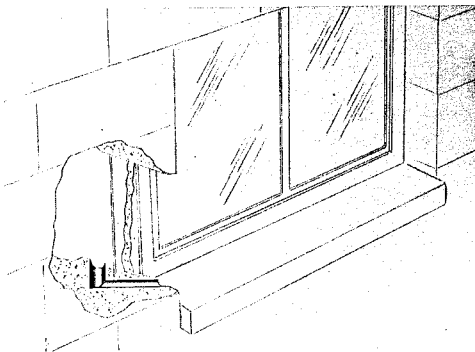

Fig. 2 — Entrance at Metal Window Frame
- When metal window frame is set in masonry or bricks, enter as shown in Fig. 2.